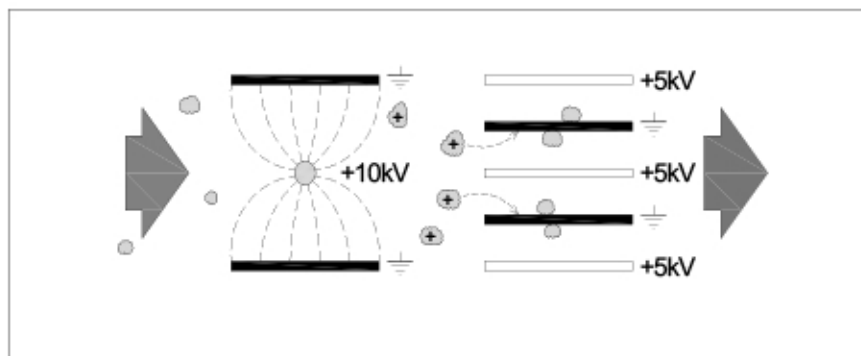

Figure 2.2
The extracted contaminated air passes the pre filter (A) that takes out all larger particles. The pre filter also ensures a proper distribution of the airflow. After that, the air passes the ioniser (B). The contaminations in the air are electrically charged by the high voltage (+10kV). These will then be deposited on the earthed plates (see fig. 2.2) by the collector voltage (+5kV).